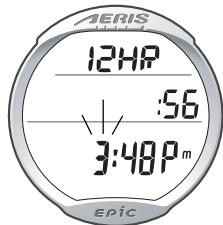

Fig. 11 - SET HOUR
- Pressing the A button momentarily (< 2 seconds) will save the Hour Format Set Point and access the SET TIME screen with the HOUR Set Point flashing (Fig. 11).